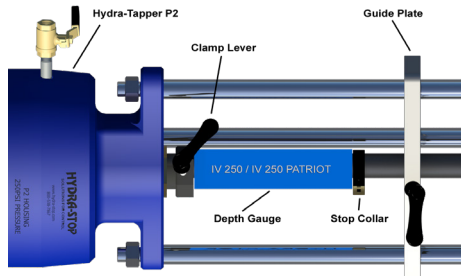

FIGURE 54
3.0.17) Slide and place the corresponding guide plate within 2" of the stop collar, then lock the clamp lever (see Figure 54).